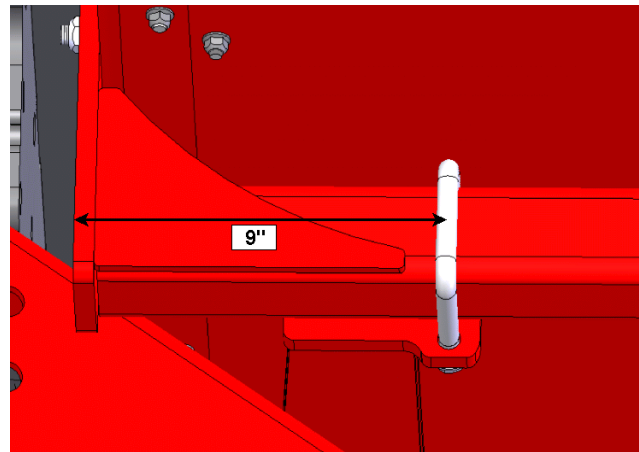

Figure 22: Ensure correct placement of U-bolts
- c. Hook U-bolts (8) around the platform supports and loosely attach the cylinder mount (21) using  $\frac{1}{2}$ " flange lock nuts.
- i. Ensure that the U-bolts are placed approximately 9" from the side of platform supports, as per *Figure 22*.